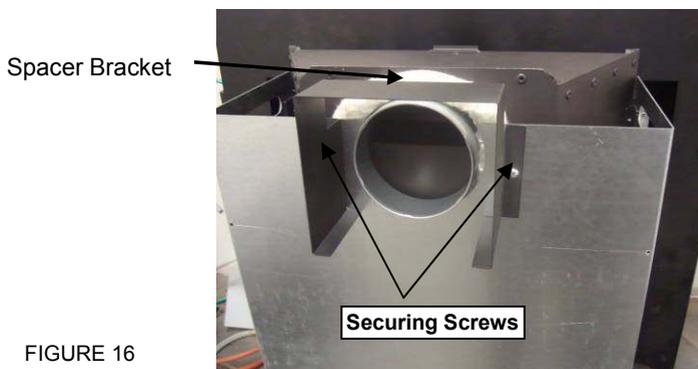

FIGURE 16
- 3 Unpack the Spacer Bracket and secure it to the rear top of the firebox using two screws supplied (see Figure 16).